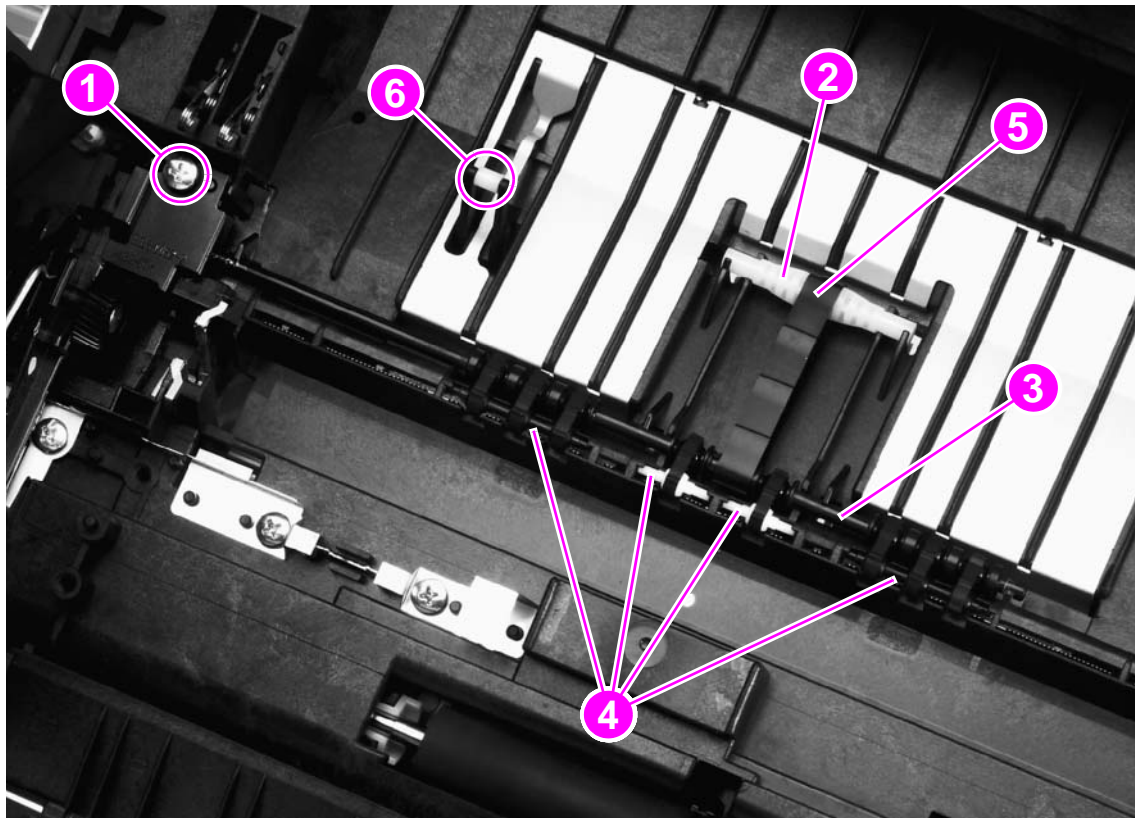

Figure 90.
- 2 Remove the fuser-wrap sensor roller (see figure 90 on page 143, callout 6).